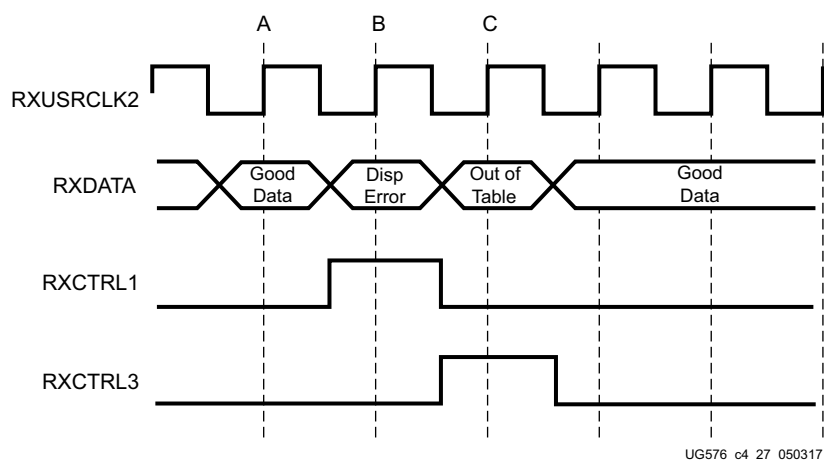

Figure 4-32: RX Data with 8B/10B Errors
Figure 4-32 shows a waveform at the RX data interface when the decoder receives good data (A), data with disparity error (B) and an out-of-table character (C).